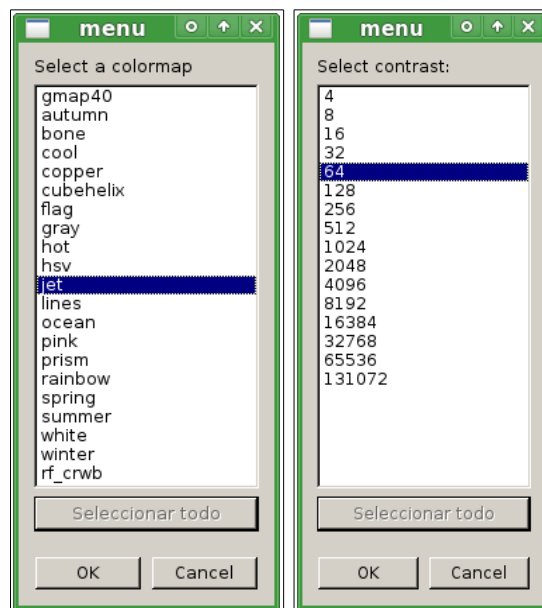

Figure 6. Selecting color map and contrast.
**Colormap** and **visual contrast** allows us to select between different color sets and contrast levels for the figure. None of the selections will modify really the data (figures 6,7 and 8).